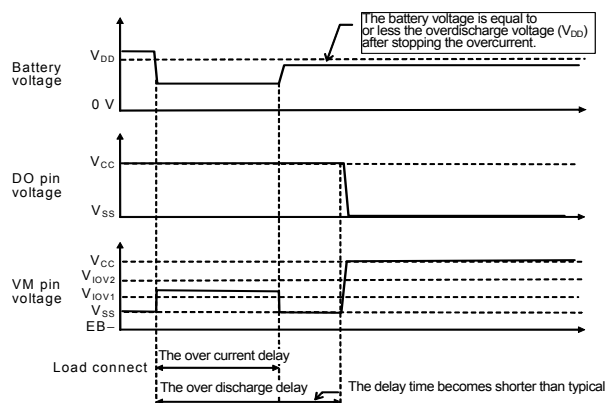

Figure 9
- After the overcurrent detection delay, if either one of battery voltages equals the overdischarge detection voltage ( $V_{DD1,2}$ ) or lower, the overdischarge detection delay time becomes shorter than 10ms (min.). It occurs because capacitor C3 sets all of delay times (refer to the **Figure 9**).